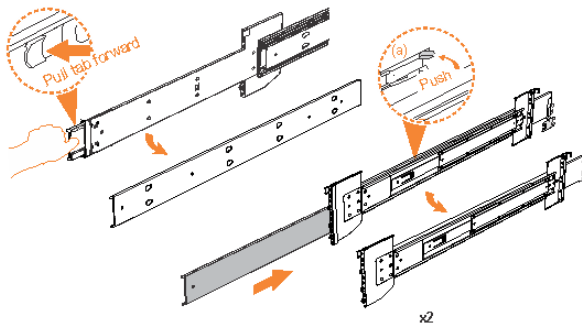

Figure 50. Detaching the inner rail section
3. Remove the inner member of the rail. Push the tab (a) and slide the middle rail member back, as shown in Figure 50 on page 85.